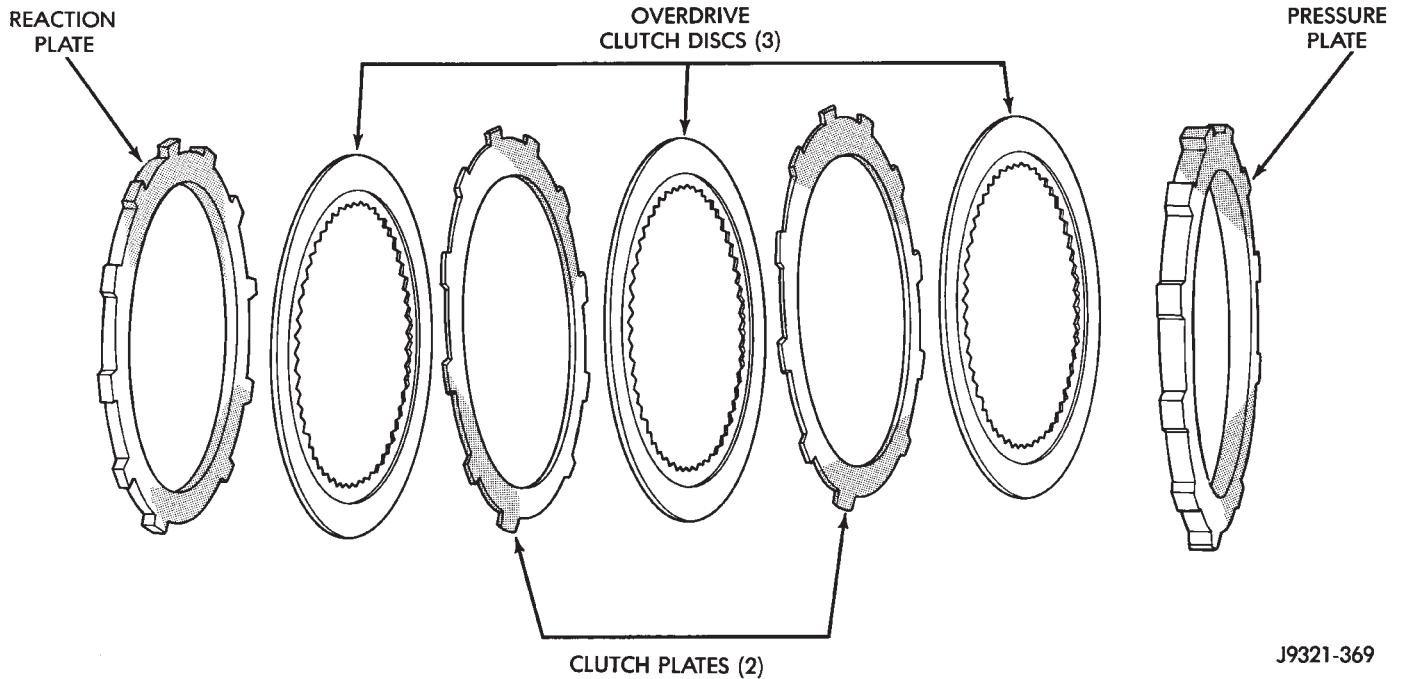
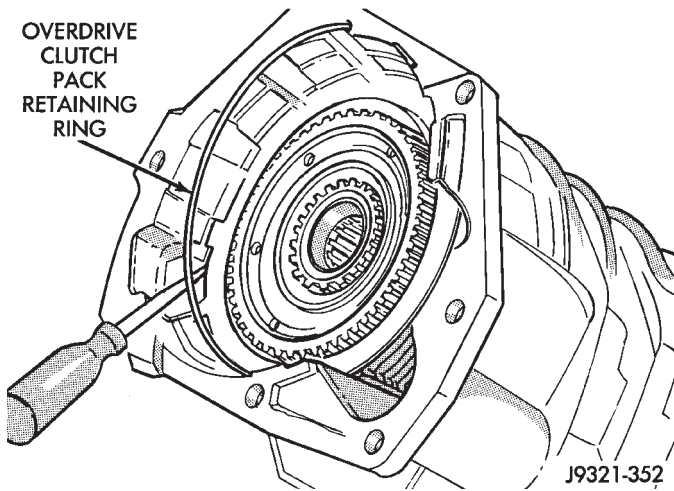

Fig. 65 Overdrive Clutch Components
Fig. 66 Installing Overdrive Clutch Pack Retaining Ring
- (3) Assemble overdrive clutch pack (Fig. 65).
- (4) Install overdrive clutch reaction plate first. **Note that reaction plate is thinner than pressure plate.**
- (5) Install first clutch disc followed by first clutch plate. Then install remaining clutch discs and plates in same order.
- (6) Verify clutch pack. 4 clutch discs, 3 steel plates, 1 reaction plate and 1 pressure plate are required.
- (7) Install clutch pack pressure plate. Note that pressure plate is thickest plate in clutch pack.
- (8) Install clutch pack wire-type retaining ring (Fig. 66).